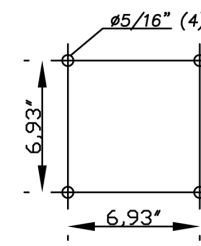

Fig. 2
- Confirm that the ceiling will support the weight of the hood. Drill 4 holes in the ceiling using a 5/8". Bit and insert the plugs (Fig. 2).